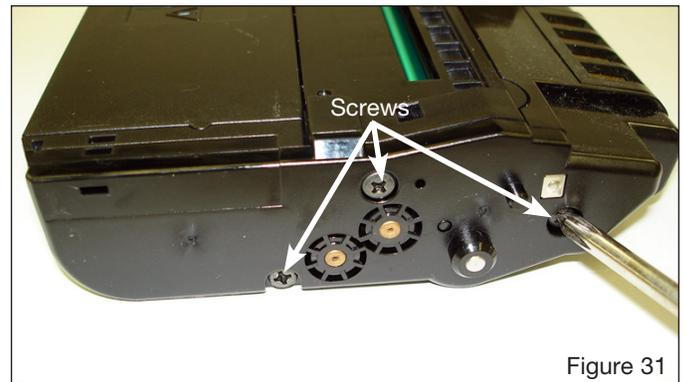

Figure 31
- After the cartridge is filled with toner then reinstall the hopper cap and the contact side end plate using the three screws as shown in Figure 31.